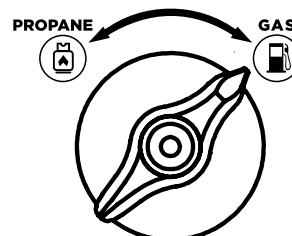

Figure 7: Turn Fuel selector to GAS position
- b. Turn fuel selector knob to **GASOLINE** (see Figure 7).